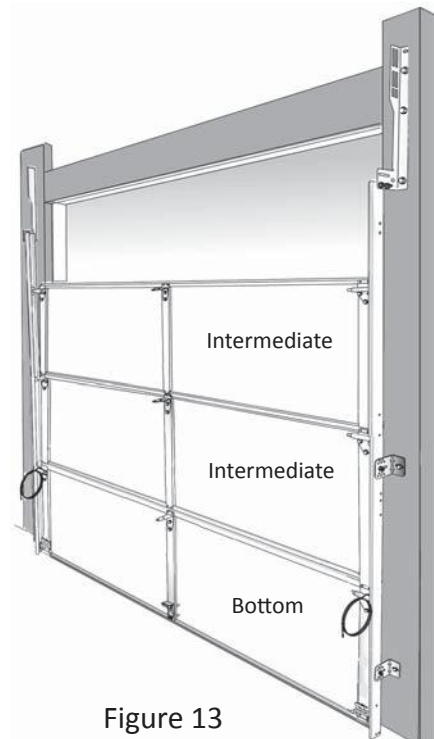

Figure 13
**Note:** Repeat steps 16-19 for each intermediate section required (Figure 13).